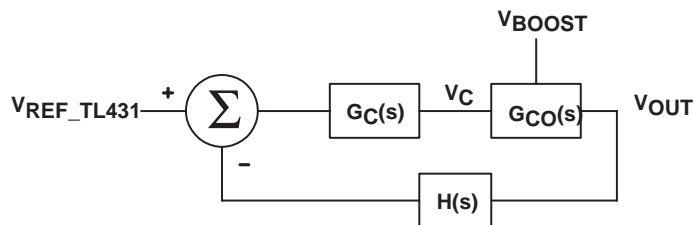

Figure 12. UCC38500 Control Block
Figure 12 shows the control block diagram for the typical application shown in Figure 9. $G_C(s)$ is the compensation network's transfer function (TF), $G_{OPTO}(s)$ is the opto-isolator TF, $G_{CO}(s)$ is the control-to-output TF, and $H(s)$ is the divider TF. The following equations can be used to estimate the frequency response of each gain block, where f_{OPTO_pole} is the frequency, where the optoisolator is -3 dB from its dc operating point, and V_{REF_TL431} is the reference voltage of the TL431 shunt regulator. R_{LOAD} represents the typical load impedance for the design.